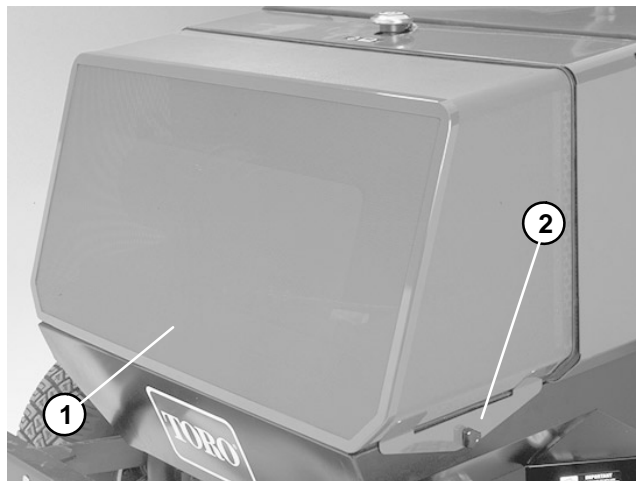

Figure 17
3. Remove knobs securing rear screen to frame and remove screen (Fig. 17).